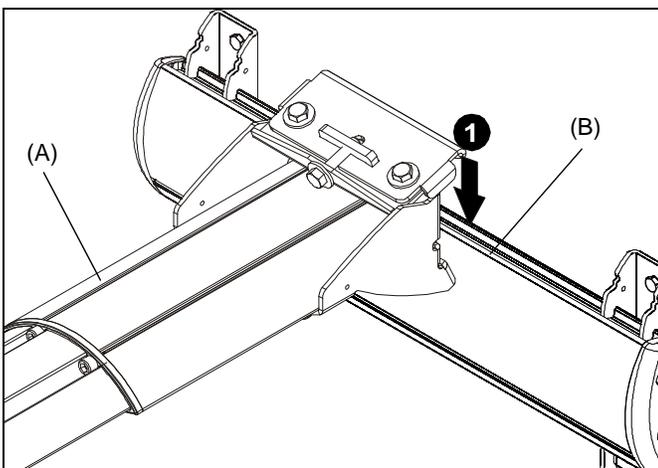

Figure 10
1. Lift short throw projector arm (A) up to wall bracket (B) and hook top plate onto cross bracket on wall bracket. (See Figure 10)